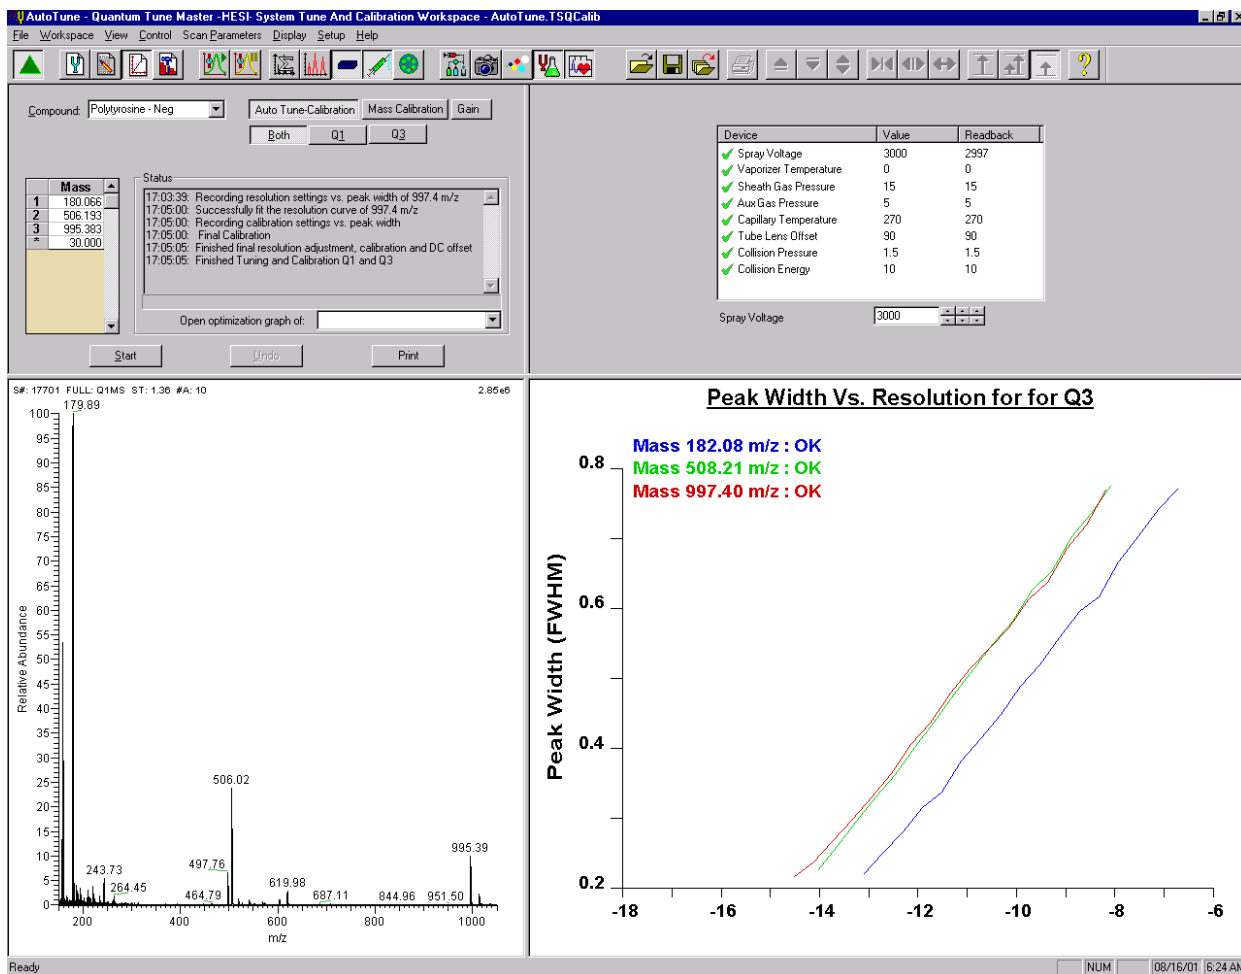

Figure 3-21. System Tune and Calibration workspace, showing preparation for negative ion mode tuning and calibration
2. In the System Tune and Calibration view in the top left corner of the workspace, select *Polytyrosine – Neg* from the Compound list box. This selects the three negatively-charged polytyrosine ions to be used for automatic tuning and calibration. See Figure 3-21.